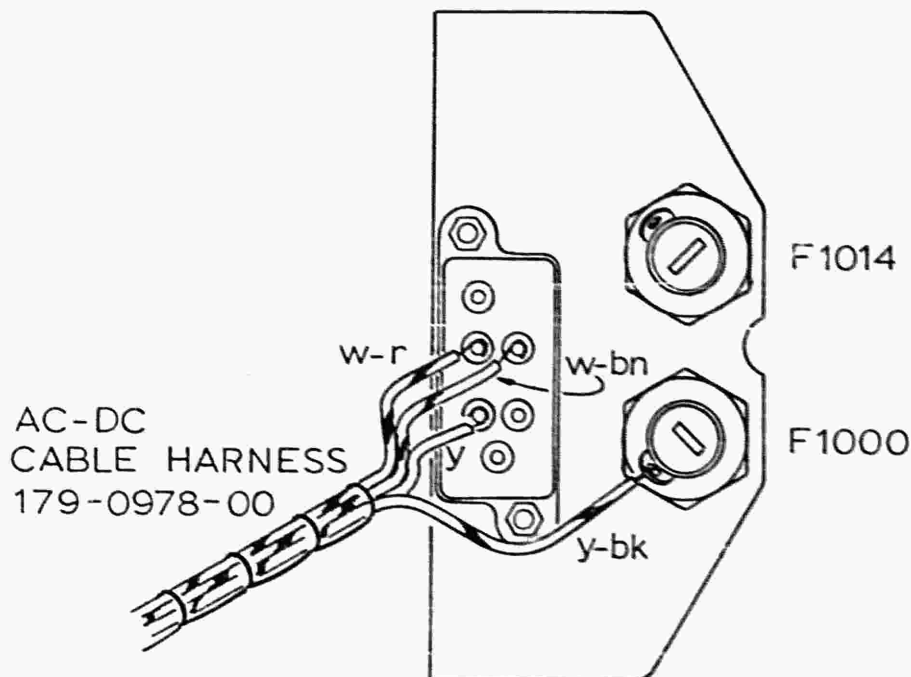

FIG. 1
- ( ) 2. Install the new assembly, using Figs. 1 through 4 as a guide to resoldering the cable harness wires.